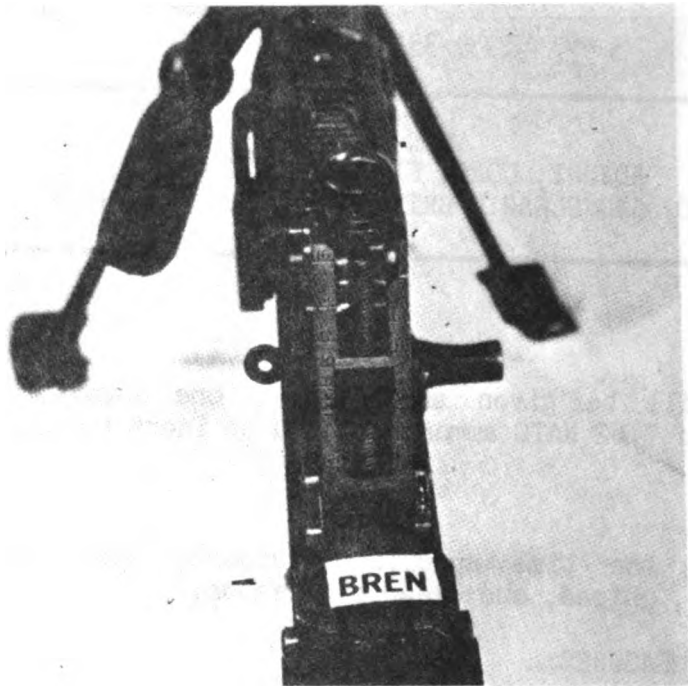

Figure 1.
(1) Adjust sight by turning knurled knob on leaf top clockwise or counterclockwise to move slide until index mark aligns with specified range in hundreds of meters (100 meters). (See fig. 1.)
(2) Adjust bipod.